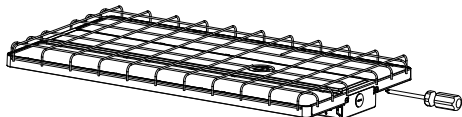

Figure 7
- Place the wire guard on the lamp and fix it with screws. (Figure 7)